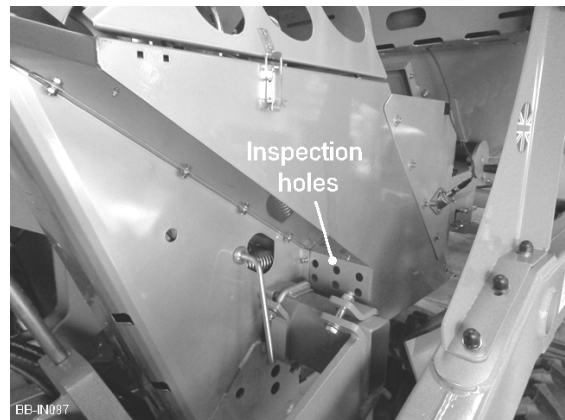

Fig. 5
*The quantity of seed potatoes in the feed pocket should never be higher than the inspection holes (see fig. 5).*